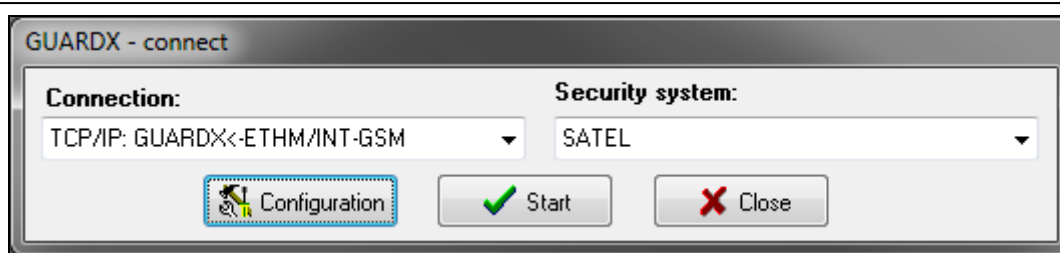

Fig. 20. GUARDX program: startup window.
To configure the settings related to communication with the alarm system, click the "Configuration" button in the startup window of GUARDX program (Fig. 20).
1. In the startup window (Fig. 20), "Connection" field, select "TCP/IP: GUARDX<-ETHM/INT-GSM" and then click the "Start" button. This will display a window with information that the program is waiting for connection.
1. In the startup window (Fig. 20), “Connection” field, select “TCP/IP: SATEL server” and then click the “Start” button.